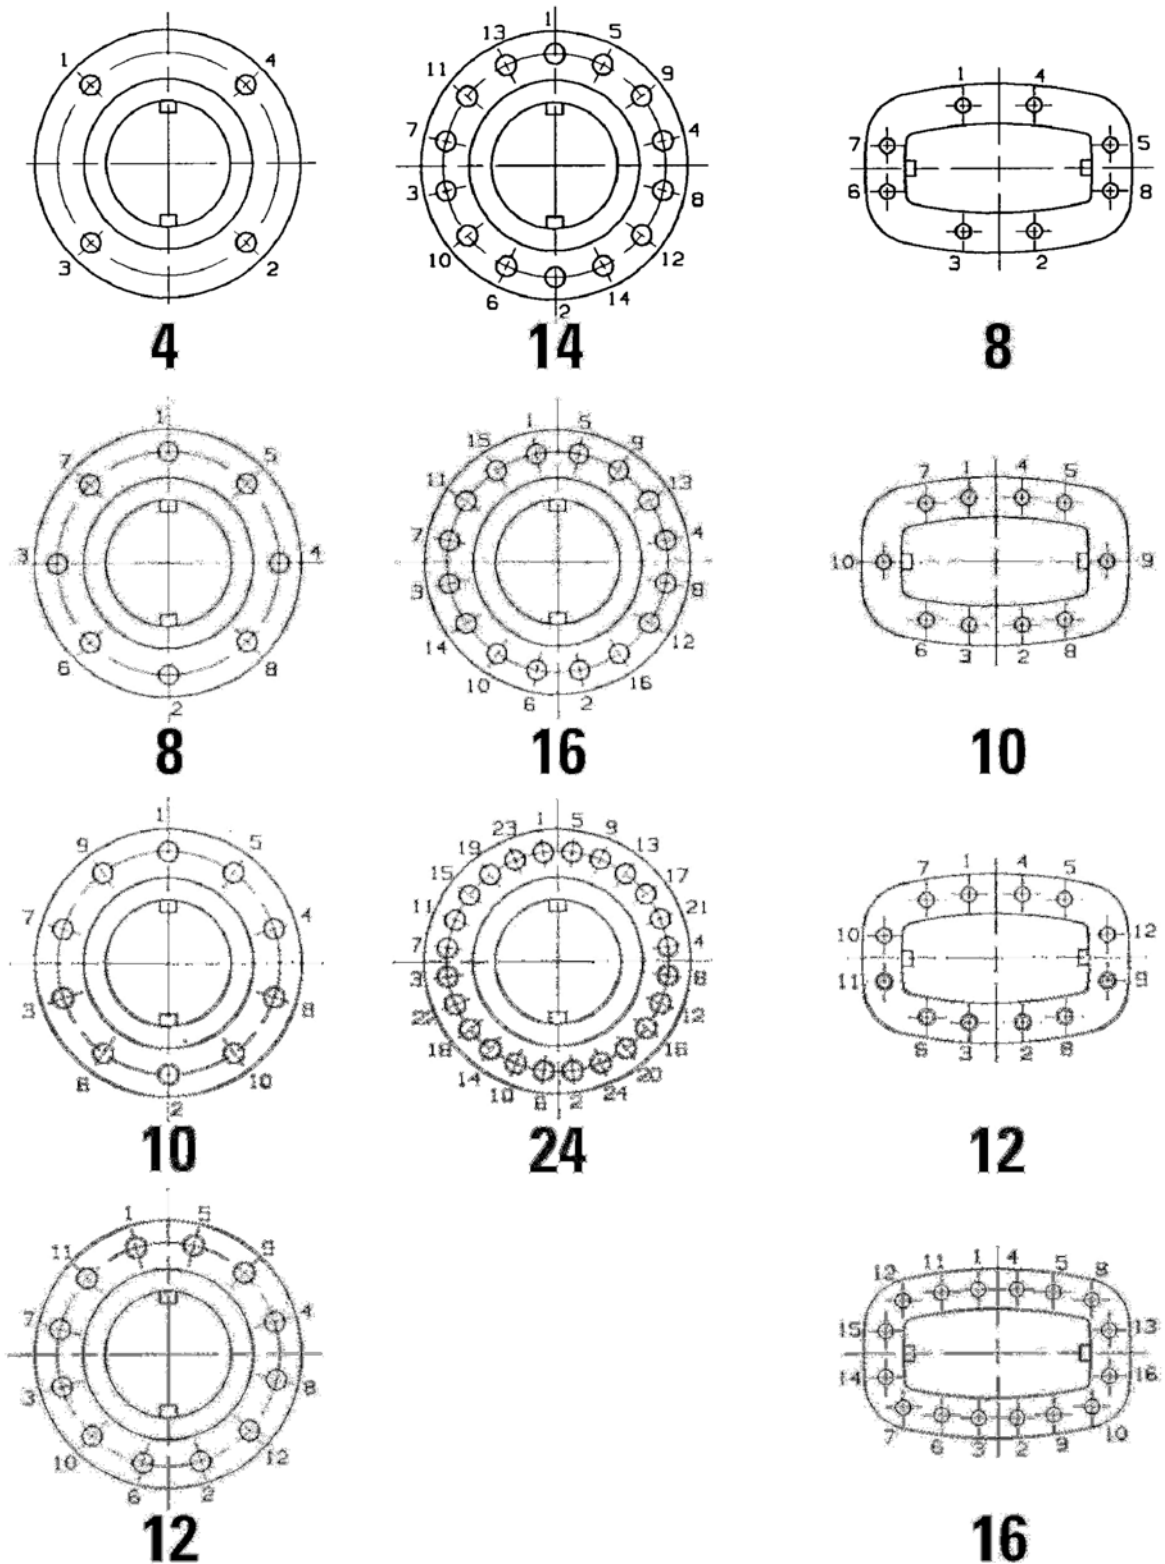

Figure 5
1. Thoroughly clean the valve interior and all components. Remove all scale, oil, grease or other foreign material. Wipe the seating surface of the disc (3) and valve seat (2) with a solvent soaked cloth. Clean the body (1) and bonnet (6) flange surfaces and all nuts and bolts.
2. Install the stem (4) carefully, sliding it through the bonnet (6) packing well, gland (13), and gland flange (14) until the threads are engaged with the yoke sleeve (17). Slowly rotate the stem clockwise until it extends beyond the bonnet (6).
3. Place the hand wheel (19) on to the valve and secure with the hand wheel nut (20).
4. Position a new bonnet gasket (5) on the body's (1) bonnet flange, aligning the holes in gasket and body. The gasket should not extend over the open body cavity. The gasket may be coated with light oil. **DO NOT REUSE GASKETS.**
5. Install the disc (3) on to the T-head of the stem (4).
6. Lift the bonnet (6), stem (4), and disc (3) assembly up and over the body. Check the location marks previously made to align the bonnet (6) and body (1) and the disc (3) and body (1) properly. Carefully lower the assembly until the body (1) and bonnet (6) flange marks meet. Again, caution must be used to prevent scoring or scratching of the seating surfaces. Keeping the bonnet (6) stationary, open the valve a few turns to ensure the disc (3) is not touching the seat (2).
7. Line up the body (1) and bonnet (6) holes. Make sure the gasket (5) does not extend into any of the bolt holes.
8. Install the bonnet bolting (8) and nuts (7) and tighten in a cross-over pattern (see Figure 5) to evenly load the gasket (5) to the appropriate torque value listed in Table 2.
9. Install new packing (10) per instructions in section "Stem Packing Replacement".
10. Align and center the packing gland (13) in the packing well.
11. Holding the eye bolts (12) up, lower the gland flange (14) over the packing gland (13).
12. Install the eye bolt nuts (15) and alternate tightening with no more than a quarter turn on each until hand tight. With a wrench, tighten the eye bolt nuts at least 1/2 to 3/4 turns more.
13. Open and close the valve using the hand wheel (19). The action should be smooth and regular through full stem travel.
1. Thoroughly clean the valve interior and all components. Remove all scale, oil, grease or other foreign material. Wipe the seating surface of the disc (3) and valve seat (2) with a solvent soaked cloth. Clean the body (1) and bonnet (13) flange surfaces and all nuts and bolts.
2. Install the stem (6) carefully, sliding it through the bonnet (13) packing well, gland (15), and gland flange (16) until the threads are engaged with the yoke sleeve (19). Slowly rotate the stem clockwise until it extends beyond the bonnet (13).
3. Place the hand wheel backing ring (23) and hand wheel (21) on to the valve and secure with the hand wheel nut (22).
4. Position a new bonnet gasket (9) on the body's (1) bonnet flange, aligning the holes in gasket and body. The gasket should not extend over the open body cavity. The gasket may be coated with light oil. **DO NOT REUSE GASKETS.**
5. Install the disc (3) on to the stem (6) by screwing the disc nut (5) down. Using the marked information on the disc nut from disassembly, tack weld the disc and disc nut assembly to secure it.
6. Lift the bonnet (13), stem (6), and disc (3) assembly up and over the body. Check the location marks previously made to align the bonnet (13) and body (1) properly. Carefully lower the assembly until the body (1) and bonnet (13) flange marks meet. Again, caution must be used to prevent scoring or scratching of the seating surfaces. Keeping the bonnet (13) stationary, open the valve a few turns to ensure the disc (3) is not touching the seat (2).
7. Line up the body (1) and bonnet (13) holes. Make sure the gasket (9) does not extend into any of the bolt holes.
8. Install the bonnet bolting (7) and nuts (8) and tighten in a cross-over pattern (see Figure 5) to evenly load the gasket (9) to the appropriate torque value listed in Table 2.
9. Install new packing (12) per instructions in section "Stem Packing Replacement".
10. Align and center the packing gland (15) in the packing well.
11. Holding the eye bolts (17) up, lower the gland flange (16) over the packing gland (15).
12. Install the eye bolt nuts (18) and alternate tightening with no more than a quarter turn on each until hand tight. With a wrench, tighten the eye bolt nuts at least 1/2 to 3/4 turns more.
13. Open and close the valve using the hand wheel (21). The action should be smooth and regular through full stem travel.
1. Thoroughly clean the valve interior and all components. Remove all scale, oil, grease or other foreign material. Wipe the seating surface of the disc (3) and valve seat (2) with a solvent soaked cloth. Clean the body (1) and cover (15) flange surfaces and all nuts and bolts.
2. Attached the hinge arm (7) to the disc (3) securing it with the disc nut (6). Secure the disc nut with a new cotter pin (5). If the old pin is in good condition, it can be reused, however a new pin is always recommended.
3. Lift the disc (3) assembly into the body (1), again, being careful not to scratch the seating surfaces. While supporting the assembly, insert the hinge pin (8).
4. If the disc (3) is internally hung, install washer (10) and bolt (11) and secure with tack weld. For valves with a side plug, install the spring washer (18) and plug (17).